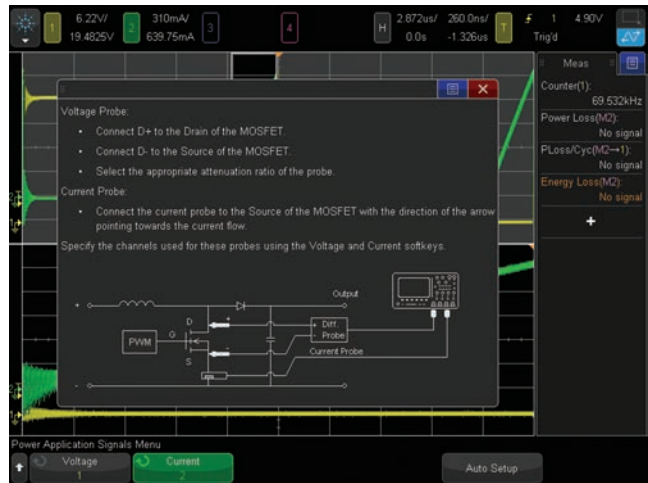

Figure 21: Slew Rate measurement connections diagram.
4. Press the **Signals** softkey; then connect the N2790A voltage probe between channel-1 of the scope to the drain/collector (red lead) and source/emitter (black lead) of your switching transistor as illustrated in the on-screen connections diagram of Figure 21. If using Agilent's SMPS training kit, connect to **TP3** (red lead) and **TP4** (black lead).